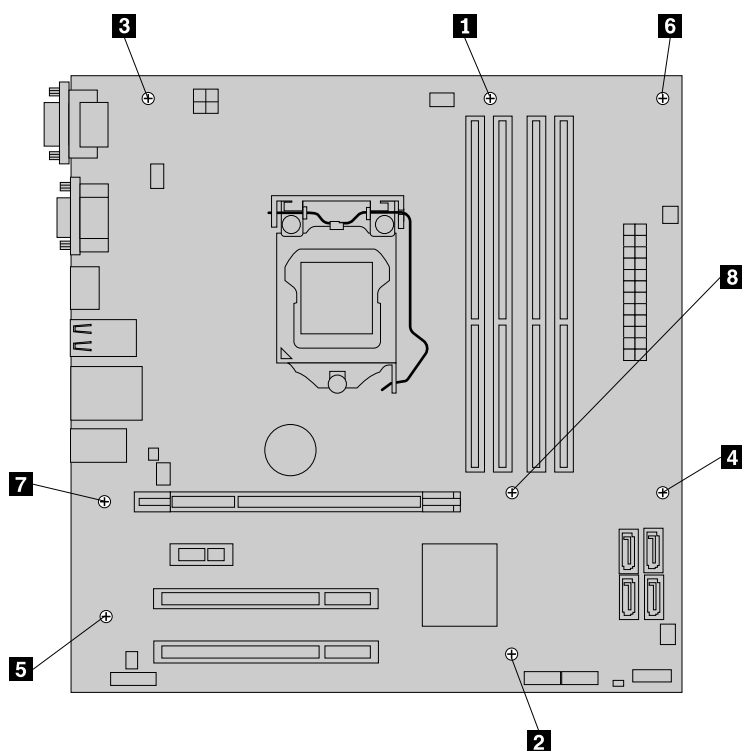

Figure 25. Removing the system board
12. Position the new system board into the chassis so that the screw holes in the new system board are aligned with those in the chassis. Install the screws that secure the system board following the sequence shown in Removing the system board Figure 25 on page 48.